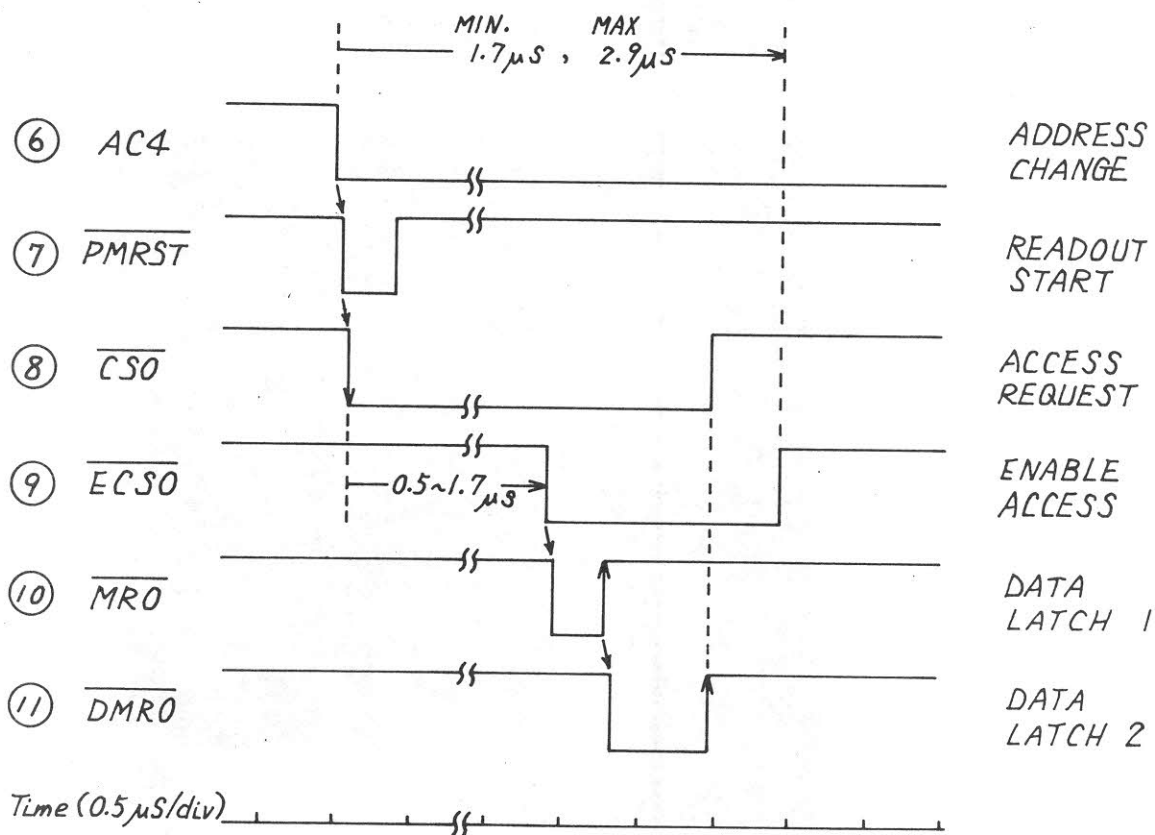

Fig. 5-77 Display RAM Access Timing Chart
6.	Using an oscilloscope, check that Display RAM Readout timing circuit signals of checkpoints ⑥ to ⑪ operate normally as shown in Fig. 5-77.